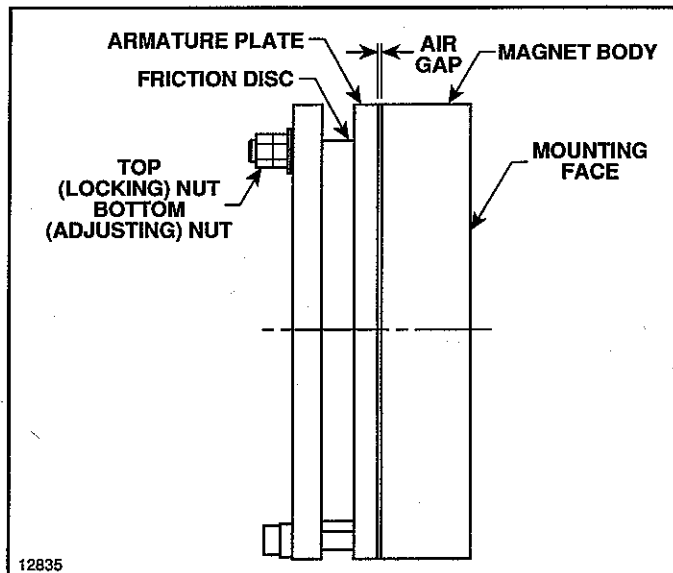

Figure 8-4. Motor Holding Brake.
b. Construction. Refer to Figure 8-4. The brake friction disc is geared to the motor pinion. With the power on and the brake off the armature plate is attracted to the magnet thereby releasing the friction disc. This allows the motor pinion shaft to rotate. With the power off or the brake on, the armature plate is spring set against the friction disc, stopping and holding the motor pinion shaft.
- (1) Loosen top (locking) nuts (Figure 8-4) at 3 positions around the outside of the brake.
- (2) Turn bottom (adjusting) nuts to reduce the air gap between the armature plate and the magnet body. Adjust air gap to $.015'' \pm .001''$.
- (3) Torque top nut against bottom nut with 45 to 50 foot pounds.
- (4) Recheck air gap at 3 positions around the armature plate.
- (5) If, after above adjustment, the load hook continues to "drift" downward more than normal for this hoist, make a complete inspection of brake including friction surfaces.
- (1) Remove top (locking) nuts (Figure 8-4) from 3 positions around outside of brake.
- (2) Remove bottom (adjusting) nuts (Figure 8-4) from 3 positions around outside of brake.
- (3) Lift outer cover plate and friction disc from brake.
- (4) Check friction surfaces, friction disc and gear surfaces.
- (5) Replace all worn or damaged parts. If brake parts, other than disc, are required, order complete brake.
- (6) Reassemble in reverse order of disassembly.
- (7) Adjust brake per paragraph 8-5. c.